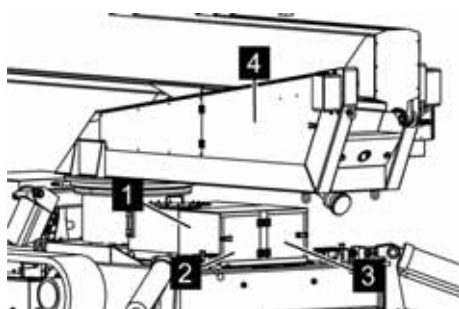

Fig. 112: Shuttle valve cover
2. ➤ Open the doors (Fig. 112/2 and 3) or completely remove the cover (Fig. 112/1).
3. ➤ Open the door (Fig. 112/4).